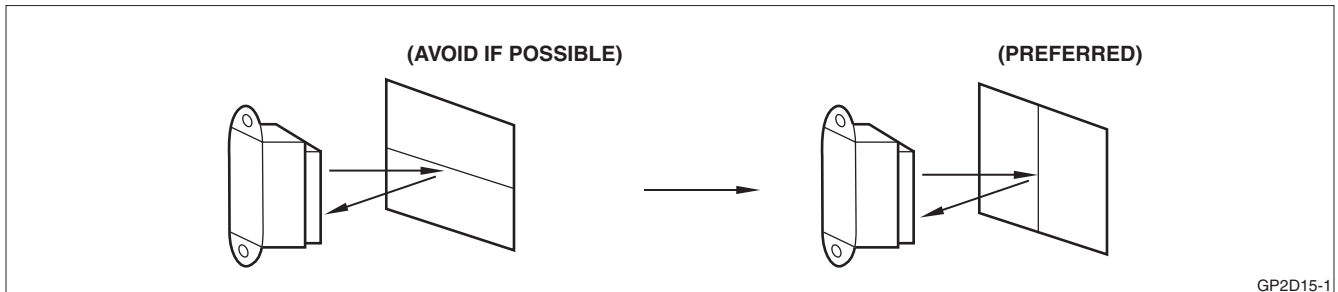

Figure 4. Proper Alignment to Surface Being Measured
- If a prominent boundary line exists in the surface being measured, it should be aligned vertically to avoid measurement error. See Figure 4 for further details.